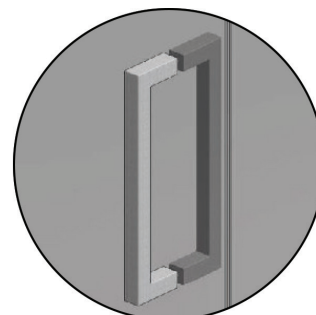

FIG 25.
- Install the door handle with grub screws on outside of shower (FIG 25).